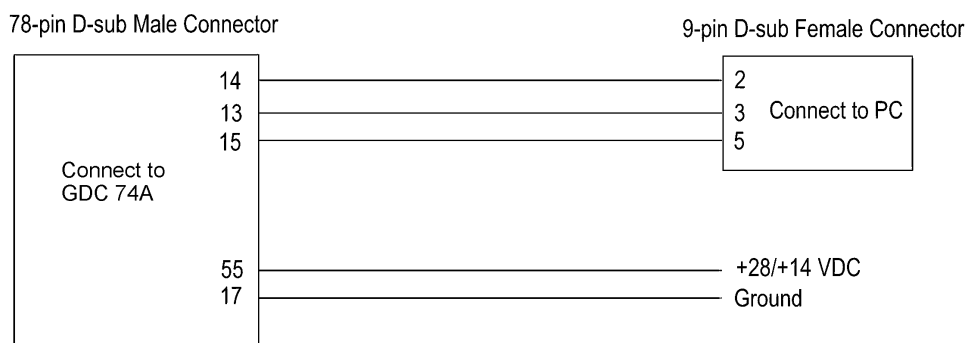

Figure 5-10. GDC 74A - PC Interface Cable
- Fabricate a cable built to interface a GDC 74A to a PC Serial Port (see Figure 5-10). The cable is not available from Garmin.
2. Connect the GDC 74A to the PC serial port using the GDC 74A – PC Interface Cable (Figure 5-10).
3. Connect the GDC 74A PC Interface Cable to the power supply (Figure 5-10).